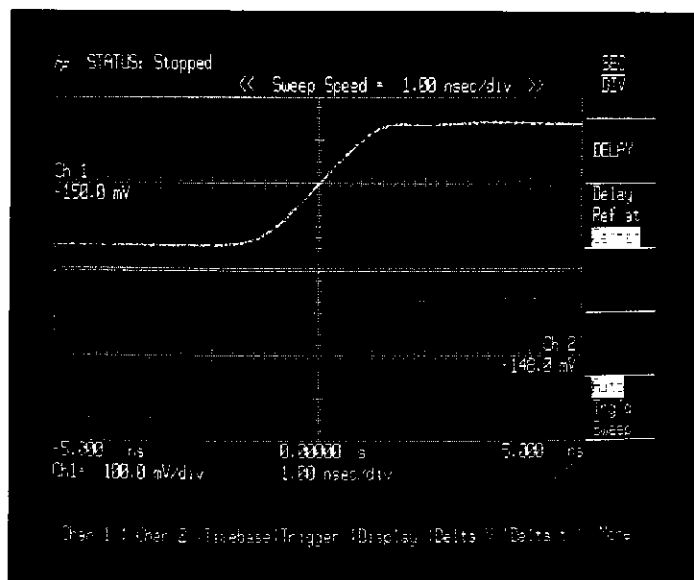
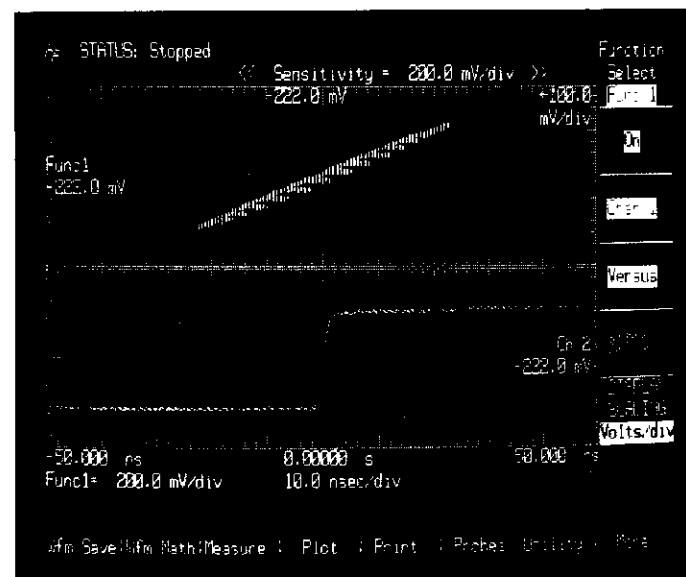

Figure 7-31. Precise Timing Resolution on Channels 1 &amp; 2.
Figure 7-34. Chan 1 Versus Chan 2 with Low Timing Resolution.
4. Select the Timebase menu and set the SEC/DIV to 1 nsec/div (Figure 7-31). Notice the more precise time resolution (number of data points) on the edges of the signal as compared to the low timing resolution.
7. Return to the Wfm Math menu and turn Func 1 on. The resulting chan 1 versus chan 2 (top of Figure 7-34) shows rectangular steps that occur when insufficient edge resolution is used. This is a result of the random repetitive sampling technique used in the 54110D, where by, many voltage points can be taken in the same time interval (as referenced to the trigger). Channel to channel timing skew may further aggravate this situation. To eliminate this phenomena, you should increase time resolution on the edges as shown in figures 7-31 and 7-32. These expanded waveforms allow for more data points on the given waveforms. The increased number of data points on the waveforms reduce the potential for inaccuracies.